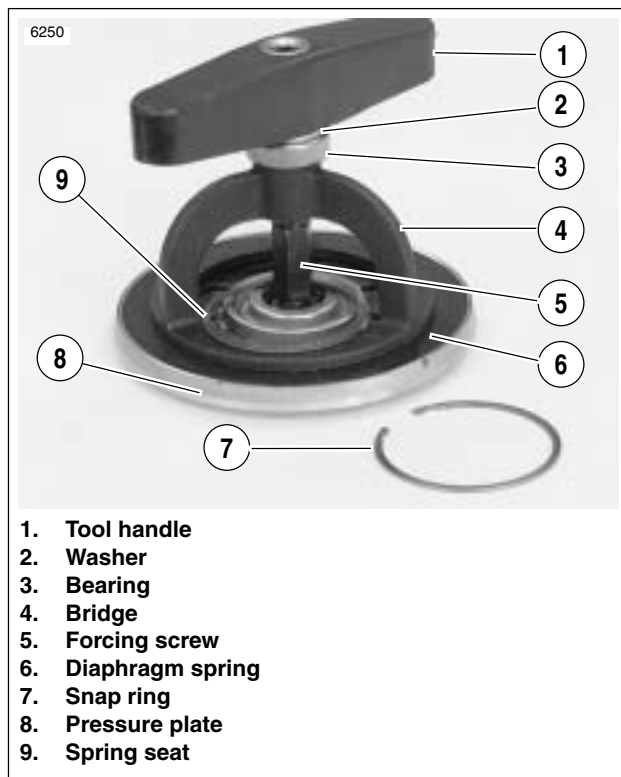

Figure 6-21. Pressure Plate Assembly
- b. See Figure 6-21. Install SPRING COMPRESSING TOOL (Part No. HD-38515-A) onto clutch hub against diaphragm spring.